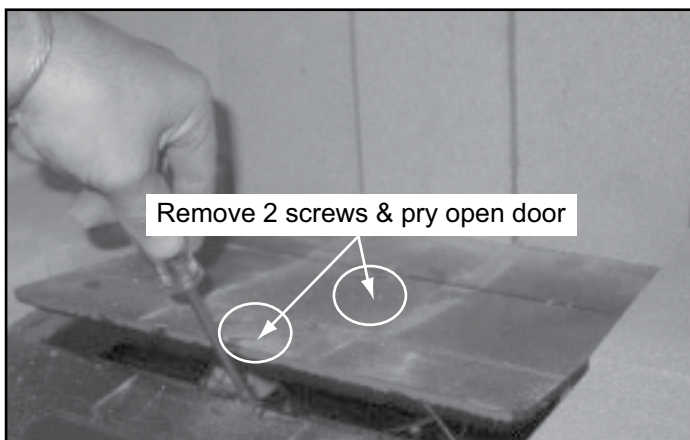

Figure 4.12
5. Remove 2 Phillips head screws and pry open access door in the bottom of the fireplace with a flat head screwdriver. Figure 4.12.